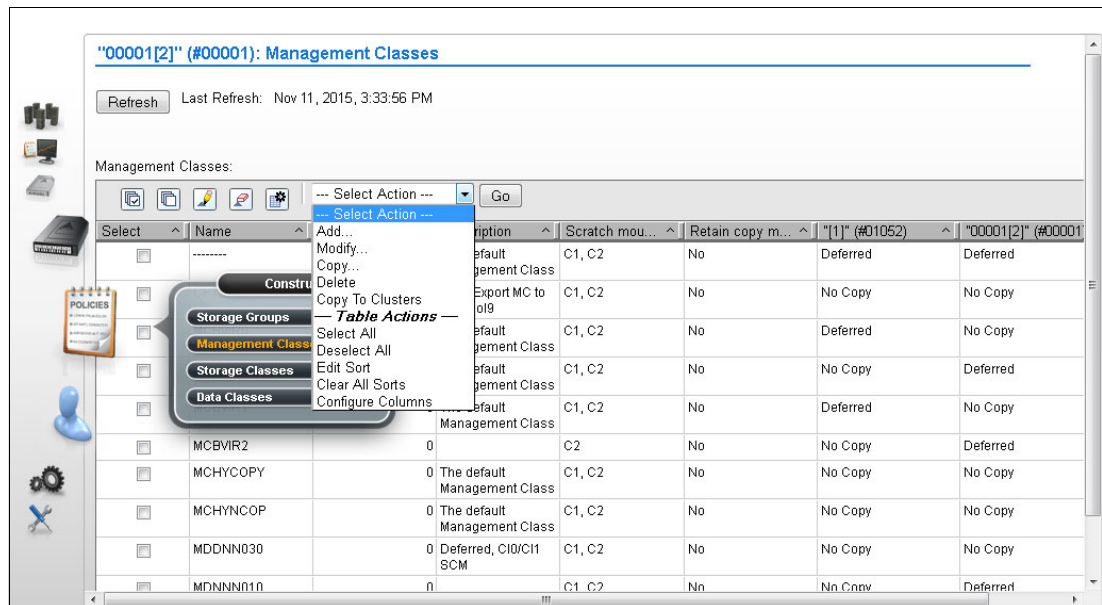

Figure 9-64 MI Management Classes window on a grid
To define, modify, copy, or delete the MC that defines the TS7700 copy policy for volume redundancy, use this window (Figure 9-64). The table displays the copy policy that is in force for each component of the grid.
1. Select **Add** from the Management Class menu that is shown in Figure 9-64 on page 457 and click **Go**.